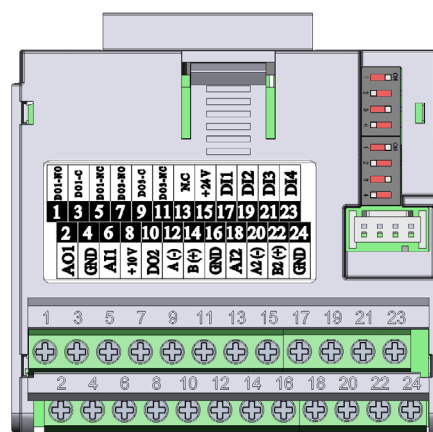

Figure 17.4: Plug-in module CFW500-CRS485
The CFW500-CRS485 plug-in module has Serial (1) interface through RS-485 port at terminals 12(A-) and 14(B+), as well as the Serial (2) interface through another RS-485 port at terminals 20(A2+) and 22(B2+), see Figure 17.4 on page 17-1.